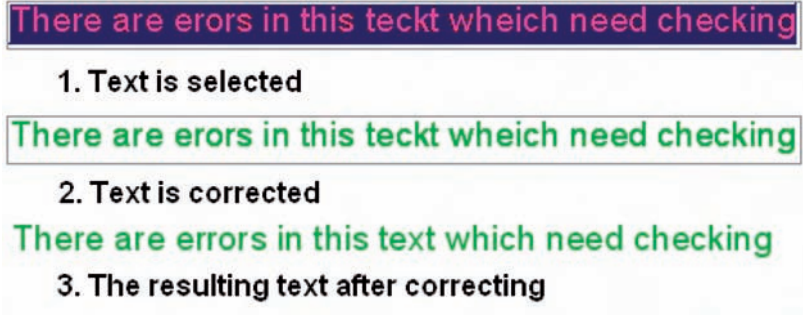

Fig. 6.39 The three stages in checking spelling using **Text Edit**
First example – the Spelling tool (Fig. 6.39)
1. Enter some badly spelt text as indicated in Fig. 6.39.
3. Left-click on the text. The text is highlighted. Edit the text as if working in a word processing application and when satisfied click the **Return** key of the keyboard (Fig. 6.39).